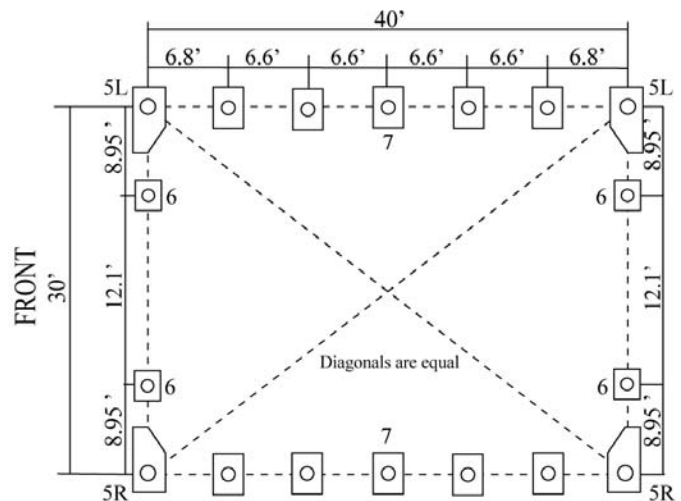

Figure 4 Position of Base Flanges
Begin by determining exact location of the four (4) corners of the building. Mark End edge and side-to-side width of assembly on ground if not on concrete pad. Drive alignment stakes into the ground outside of the markings, and draw alignment strings along both ends and sides of the building to the dimensions shown in Figure 4. The outline of the strings will represent the